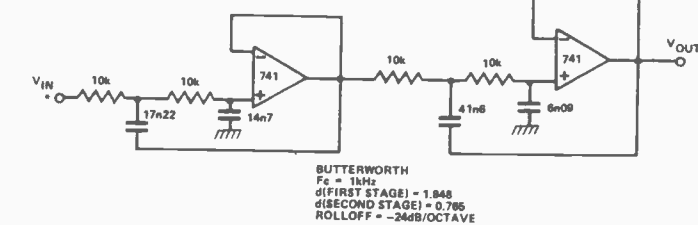
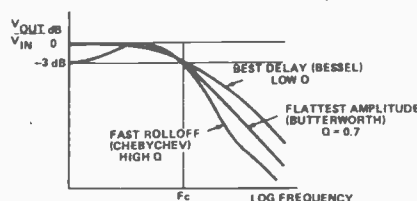
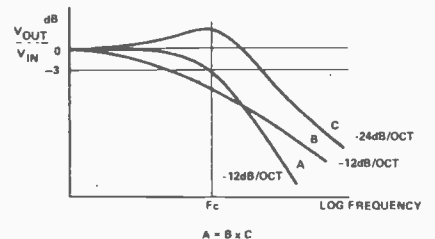

Fig. 5c. Fourth order low pass filter, 1kHz.
Fig. 6. Frequency response versus Q factor.
Fig. 7. Combining high and low Q factors.
Figure 6 shows the effect of varying Q in a low pass filter. Generally, the response that is wanted is the 'flattest amplitude' curve. A fourth order filter (Fig. 5c) is constructed from a low Q and high Q filter. The overall response of this filter is seen in figure 7. Note that the flattest amplitude curve (A) is made up out of the product of curves B and C. The peak in the high Q curve (C) is flattened out by the droop of the low Q curve (B).